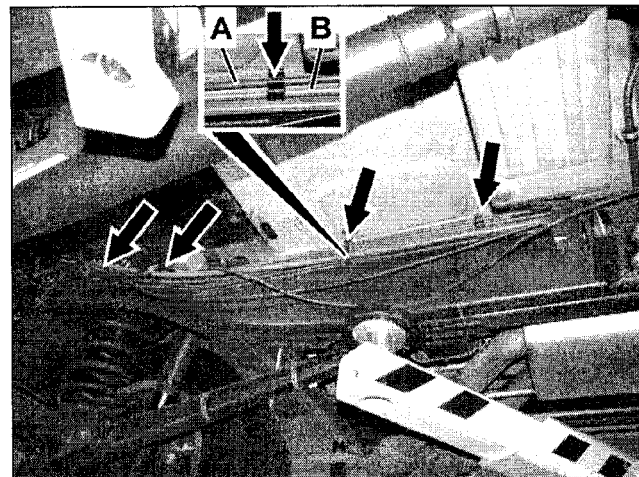

Figure 11 (not all retaining clips are shown)
11. Lock fuel lines (A, B Figure 11) into retaining clips (arrows) in reverse order of removal:
- Lock fuel return line (B) into rear position of retaining clips (nearest to vehicle's frame).
- Position fuel feed line (A) into retaining clips (arrows) in front of fuel return line (B), then secure by locking into place.